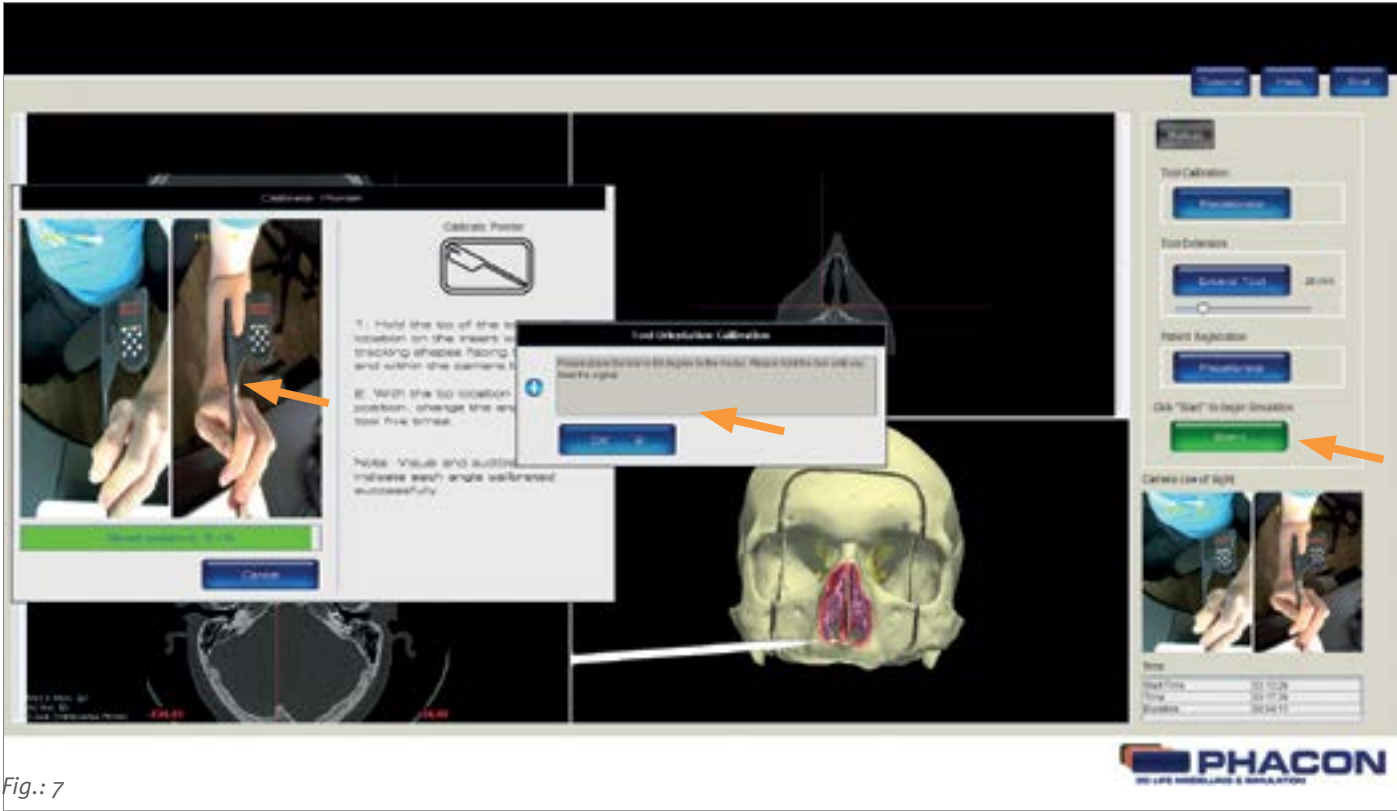

Fig.: 7
6. Hold the tool perpendicular to the Patient to perform the direction calibration (Fig. 7). An INFORMATION MESSAGE pop-up will appear to indicate the successful completion of the calibration procedure. (As shown in the 3D Scene)